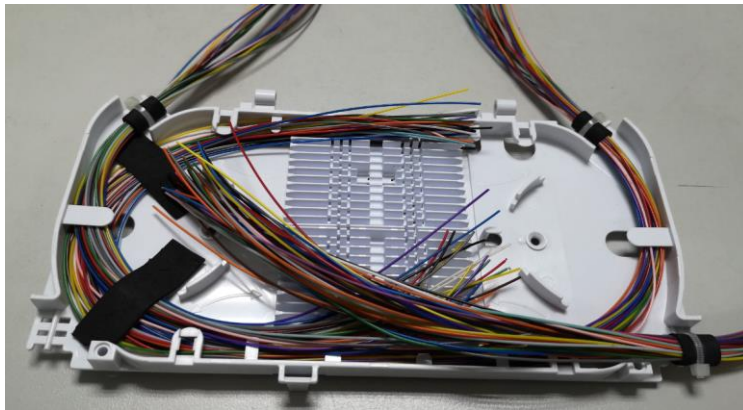

Figure 7
2. Twine foam around 48F single cables after reserving approximately 250mm length of cables for splicing. Choose the back-right side tray cable entrance for cable entry, assumed the cable is from the left side opening of the shelf as Figure 7; otherwise, choose the back-left side tray cable entrance.
3. Using the provided nylon tie wrap, loop it through the slot in the tray and around foam. Tighten cable tie for fixture. Make sure the head of the cable tie is on the bottom side of the foam as Figure 7.